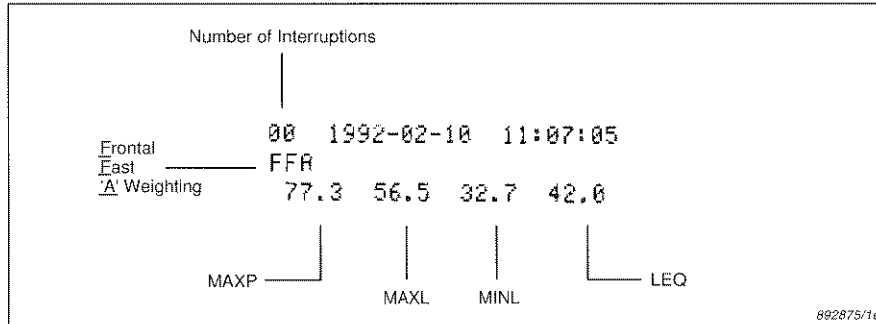

Fig. 3.5. Print-out in Format Number 4
- 4 : Record Number, Date, Time, Set-up, and the MAXP, MAXL, MINL and L_{eq} results (see Fig. 3.5).